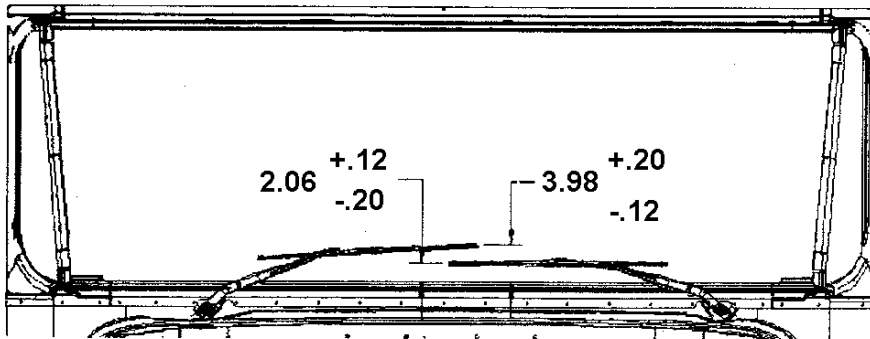

Figure 171 Windshield Wipe Alignment Dimensions
8. Check dimensions as specified in Figure 171.